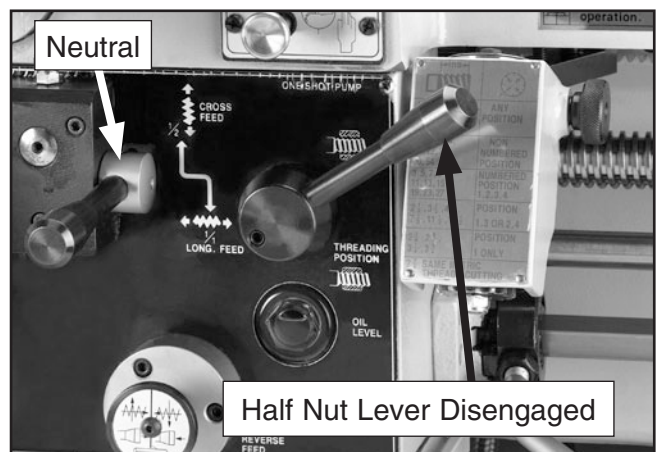

Figure 24. Power feed and half nut levers disengaged.
6. Disengage the half nut and the power feed levers shown in **Figure 24**.